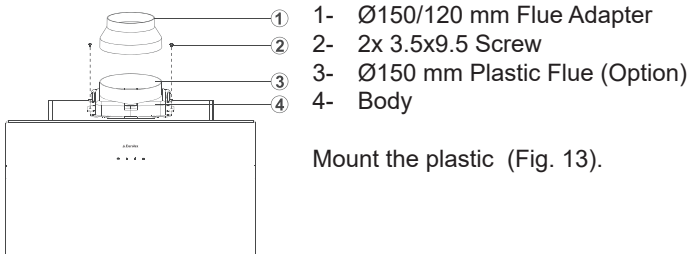

Fig. 13
Mount the plastic (Fig. 13).
- Connect the Ø150/120 mm plastic flue adapter to the air outlet if air discharge pipe is 120 mm (Fig. 13).